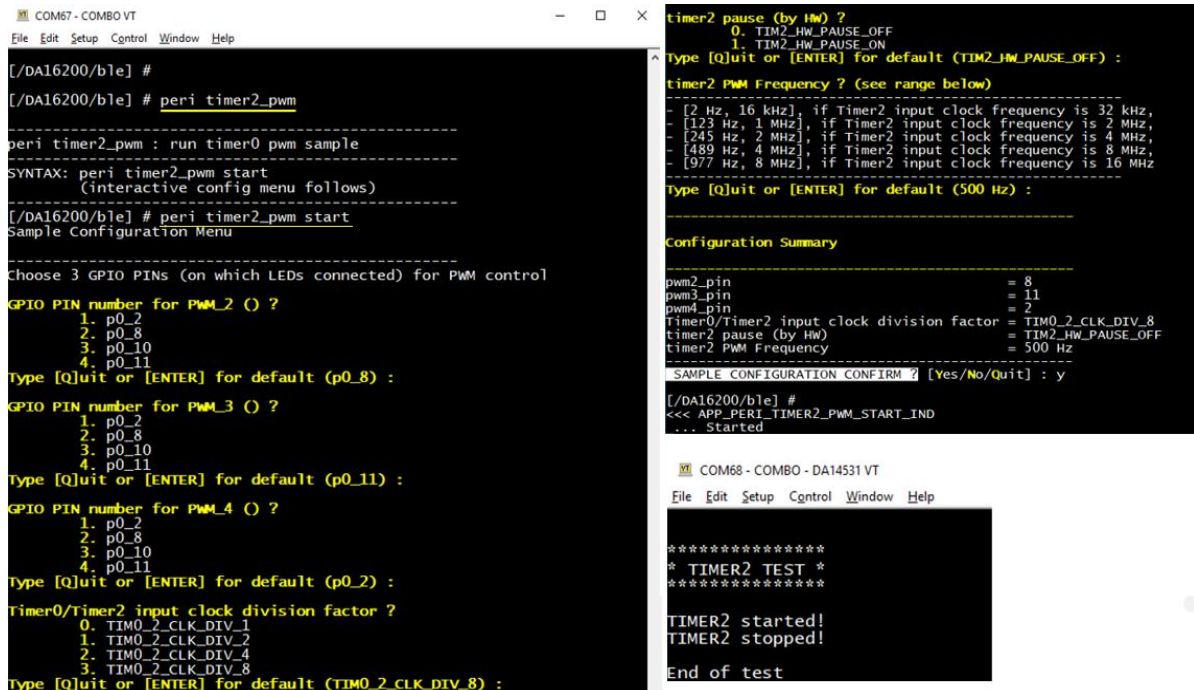

Figure 33: Peri Timer2_pwm
3. Run command as in Figure 33.